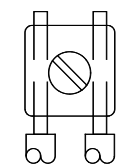

Figure 2
- Break all in-out wire runs on supervised circuits to assure integrity of circuit supervision as shown in Figure 2. The polarity shown in the wiring diagrams is for operation of the appliances.